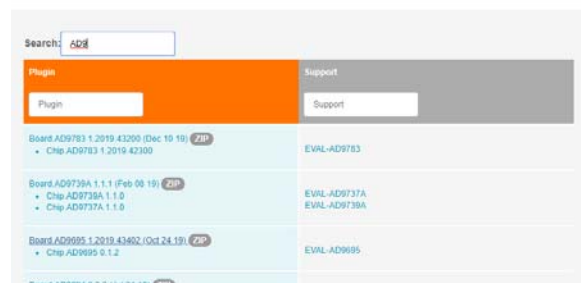

Figure 6. ACE Evaluation Board Plug-ins Web Installation
3. Click the appropriate board plugin, as shown in Figure 6. The board plugin automatically downloads to the PC. When the download is complete, locate the downloaded file. Note that if the browser used for the plugin download is Internet Explorer, the file extension of the plugin file is **.zip**. If this occurs, right click the file and rename the file extension to **.acezip**.